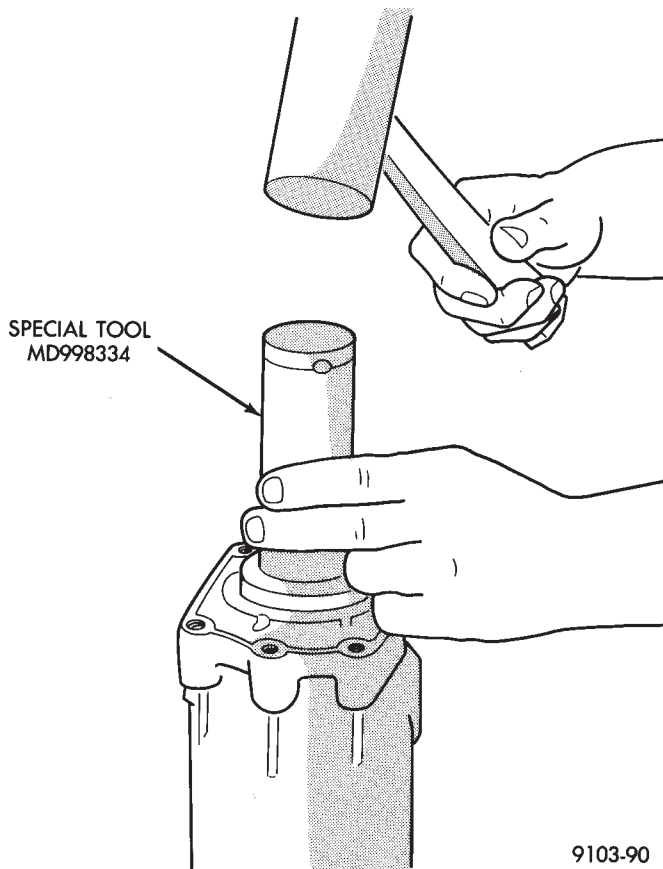

Fig. 17 Installing New Seal
(1) Clean and inspect shaft sealing surface and case for nicks or grooves. Replace as required.
(2) Install new seal with special tool MD998334. Seal should be flush with outside edge of case (Fig. 17).
(3) Install rear torque shaft bearing and outer snap ring.
(4) Install overrunning clutch case onto torque tube. Tighten bolts to 28 N•m (250 in. lbs.).
(5) Install torque shaft inner snap ring.
(6) Slide dog clutch onto shaft and install snap ring.
(7) Slide overrunning clutch inner race onto shaft and install retaining snap ring (tapered end of inner race must face outward).
(8) Clean all sealing surfaces. Then apply a bead of Mopar® Gasket Maker, Loctite Gasket Eliminator or equivalent and reinstall the overrunning clutch hous-
(9) Apply Mopar® Gasket Maker, Loctite Gasket Eliminator or equivalent and reinstall overrunning clutch cover. When installing cover be sure that the overrunning clutch fork engages into the overrunning clutch dog.
(10) Install rear drive line module assembly into vehicle.
(11) Check and fill fluid levels as required.